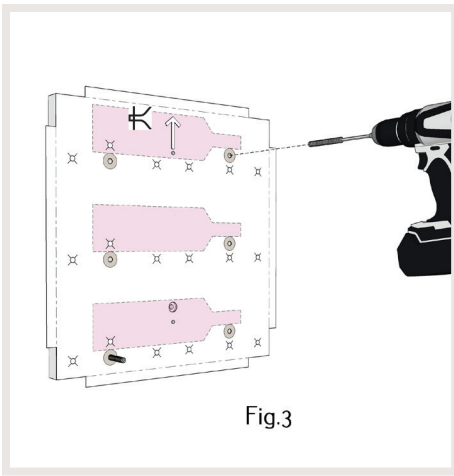
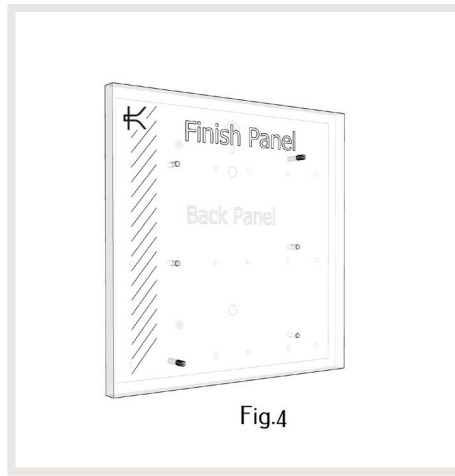

Fig.3
Fig.4
- a. **Posts are label forward** wine display (see fig 3)
- b. **Pegs are neck-out** wine display (see fig 4)
5. Using a drill with supplied driver, install (2) set-screws per panel. ***Fig3**
- a. Note: for 14x14, 14x28 and 14x42, initially install only (2) screws total per back-panel
6. Install the decorative top-panel over the (2) set screws. ***Fig4**